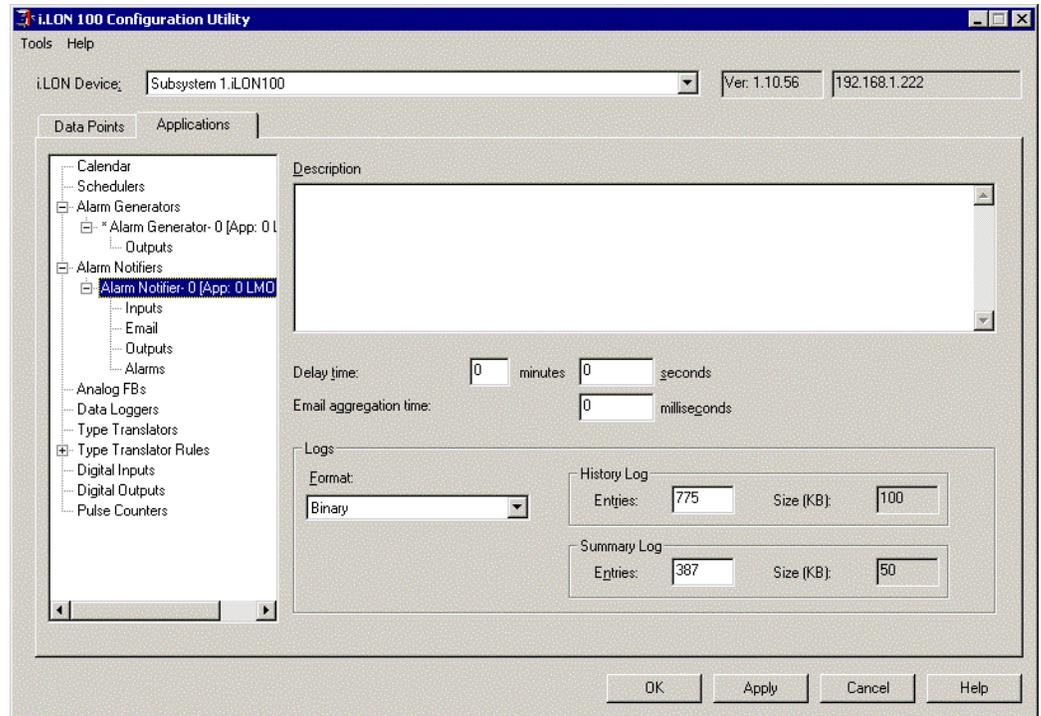

Figure 4.3 Alarm Notifier Configuration Dialog
- Right-click the **Alarm Notifier** functional block and then select **Configure** from the shortcut menu. Enter the IP address or fully qualified host name of the *i.LON 100* server when prompted. The dialog shown in Figure 4.3 appears.